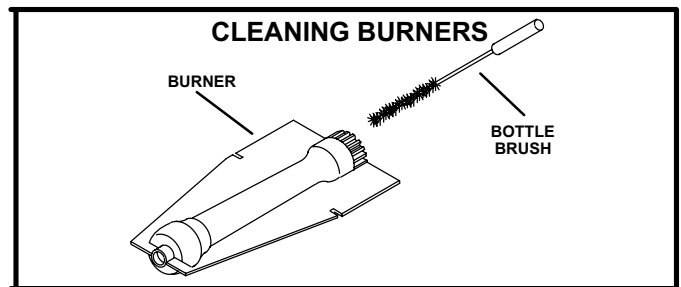

FIGURE 26
- 5 - Clean burner insert with bottle brush as shown in figure 26.